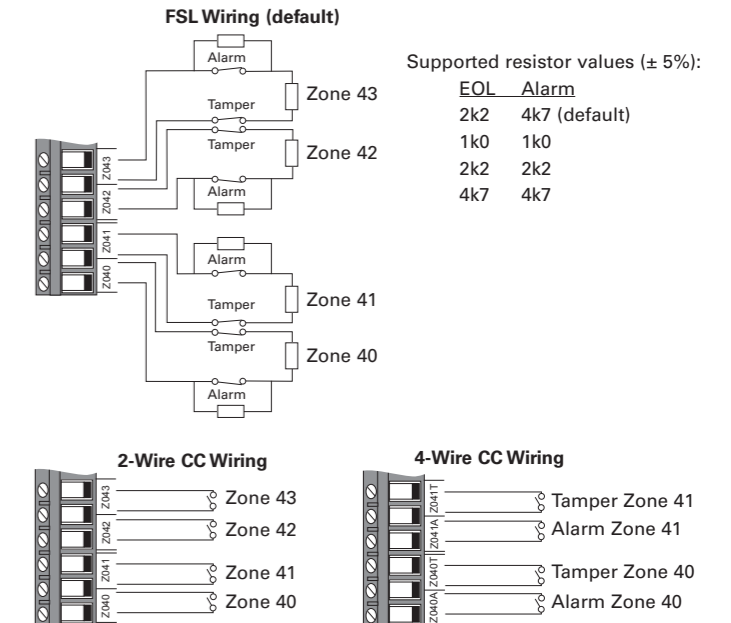

Figure 4. Zone wiring
You can connect up to 4 wired detectors to the control unit using the Fully-Supervised Loop (FSL), 4-wire Closed Circuit (CC) or 2-wire CC wiring method (Figure 4). You must use the same method for all detectors connected to the control unit. If 4-wire CC is used, the number of wired zones is halved.